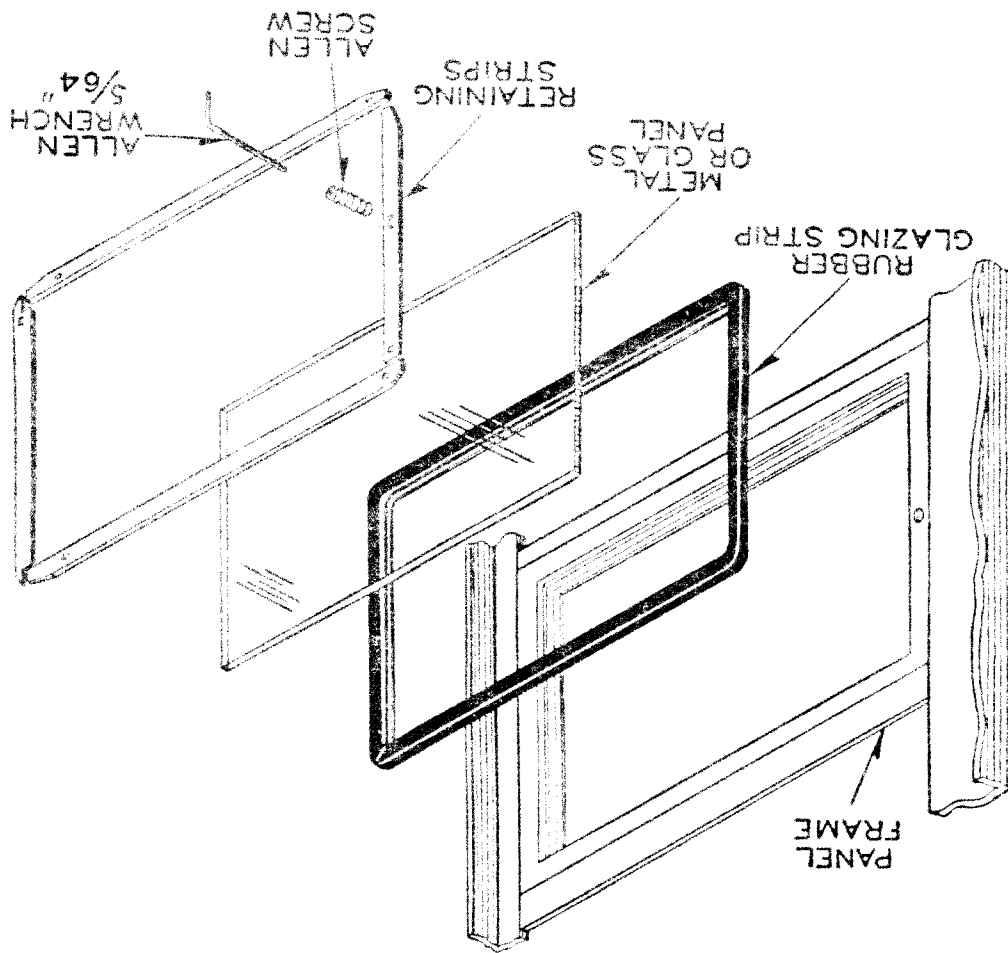

Fig. 2—KS-14611, L2 Telephone Booth—Panel Assembly
- (b) Replace retaining strips in reverse sequence and tighten Allen screw. (see Fig. 2).